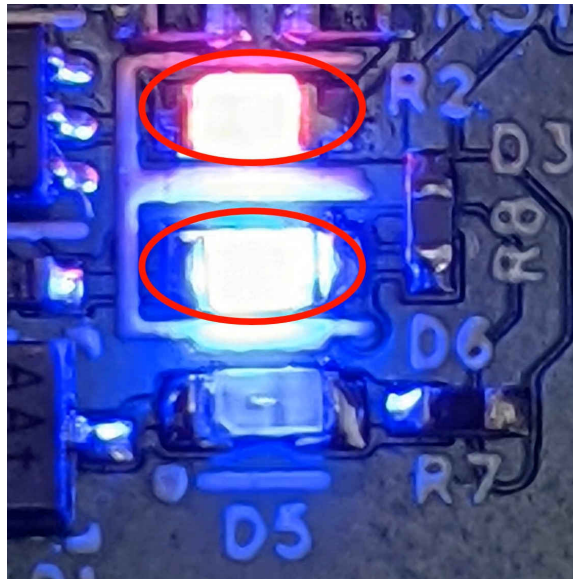

Figure 4-8. Flash Programming Operating Mode LED Status
4. Power-on the EVM. Figure 4-8 shows the LED status of the EVM when in the *Flash Programming* operation mode.